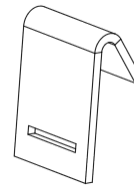
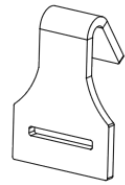

Fig. 8
Fig. 9
- B. NOTE: The Bottom/Side Straps are to be threaded on the lower Buckle Assemblies. The Top Hooks (Figure 8) and Bottom / Side Hooks (Figure 9) are shown below.